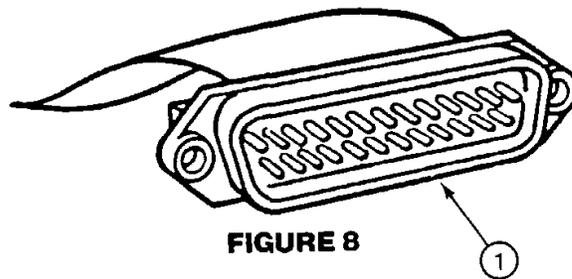

FIGURE 8
16. Hold the interface card down with one hand and push the "D"-type cable connector (Figure 8, Item 1) onto the 25-pin connector on the interface card.